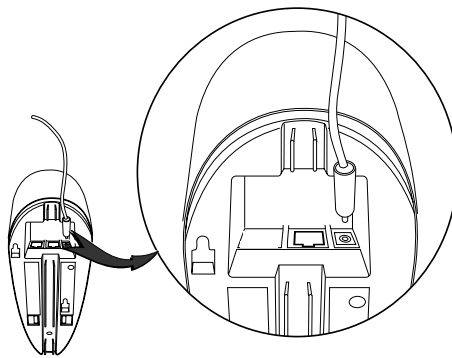

Figure 2-2. Power Supply Port
6. Connect the power supply to the cradle (see Figure 2-2).